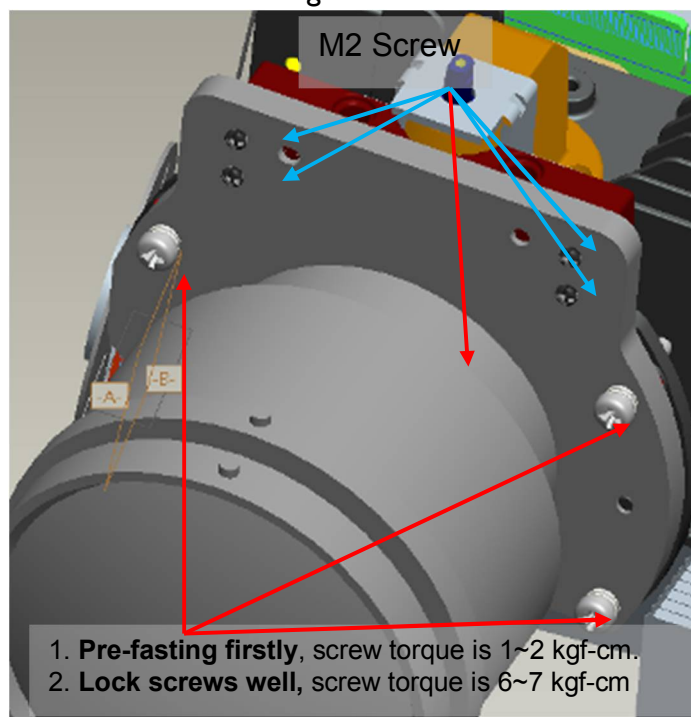

Fig. 7-2
- ii. Pre-fastening Spring Screws firstly. Screw Torque must be confirmed to be 1-2 kg-cm. (Fig. 7-2)
- iii. Fastening the Spring Screws well. Screw Torque must be confirmed to be 6.0-7.0 kg-cm. (Fig. 7-2)